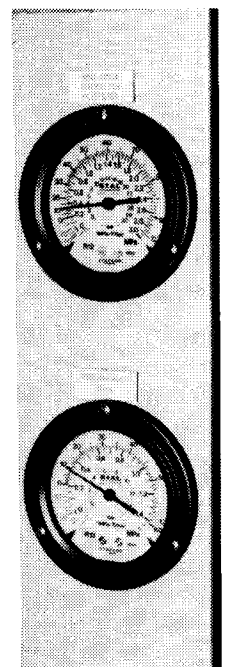

Fig. 20 Pressure gauges
5.5 Check that the temperatures shown by the pointers on pressure gauges MP1 and MP2 (see Fig. 20) lie with the range specified in the diagram for the compressor in question. See Figs. 21 and 22. Check also to see that these temperatures match the data specified for the system.